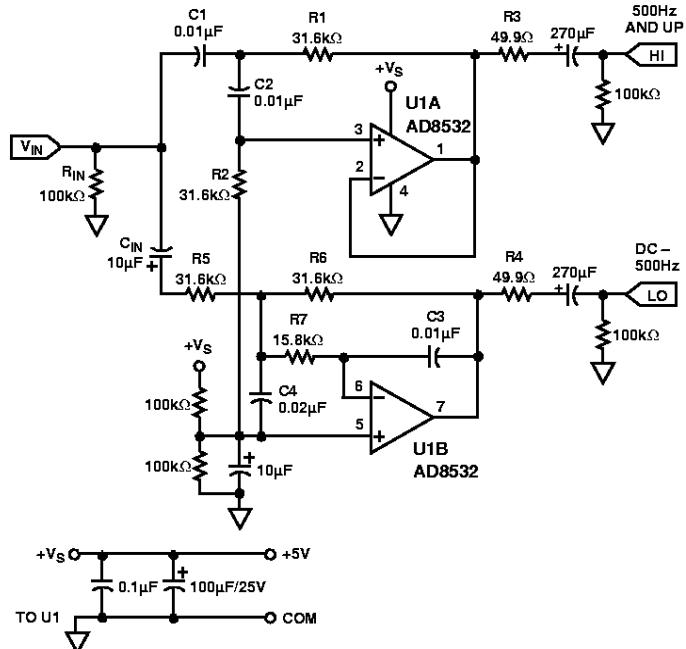

Figure 41. A Single-Supply, Two-Way Active Crossover
Active filters are useful in loudspeaker crossover networks for reasons of small size, relative freedom from parasitic effects, the ease of controlling low/high channel drive and the controlled driver damping provided by a dedicated amplifier. Both Sallen-Key (SK) and multiple-feedback (MFB) filter architectures are used in implementing active crossover networks. The circuit shown in Figure 41 is a single-supply, two-way active crossover which combines the advantages of both filter topologies. This active crossover exhibits less than 0.4% THD+N at output levels of 1.4 V rms using general purpose unity-gain HP/LP stages.